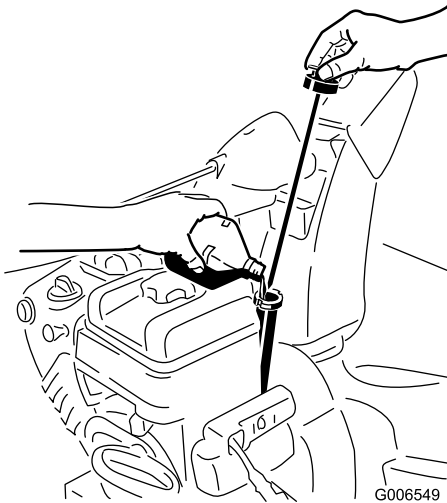

Figure 19
1. Remove the dipstick and **slowly** pour oil into the oil fill tube to raise the oil level to the Full mark on the dipstick. **Do not overfill** (Figure 19). Refer to Checking the Engine Oil Level in Maintenance.